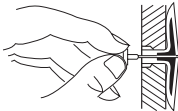

Figure 12 - Popping Open Anchor Wings for Thin Walls
- For thin walls (1/2" or less), insert red key into wall anchor. Push red key to "pop" open anchor wings. See Figure 12. **IMPORTANT:** Do not hammer key! For thick walls (over 1/2" thick), do not pop open wings.